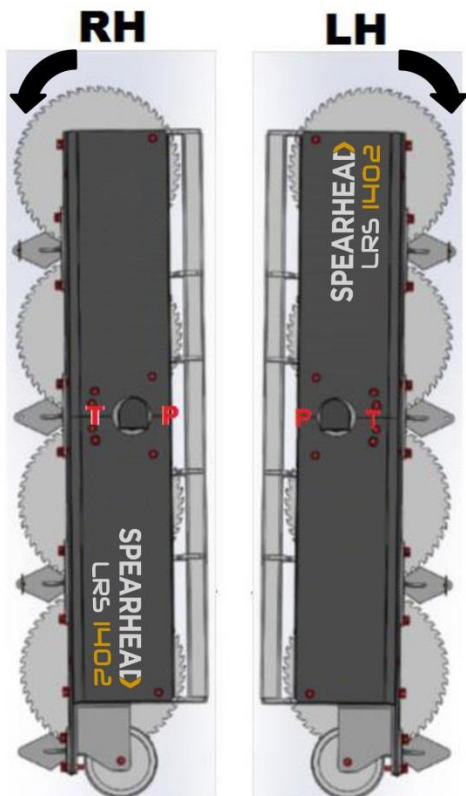

Figure 3.2
Proceed as follows for the coupling, see Figure 3.2:
- 3.2.2.1 Use appropriate protective gloves align the reach arm mounting face to the Quadsaw with an aim at lining up the bolt holes. Ensure the blade is mounted, so the direction of rotation of the saw goes down Figure 3.2